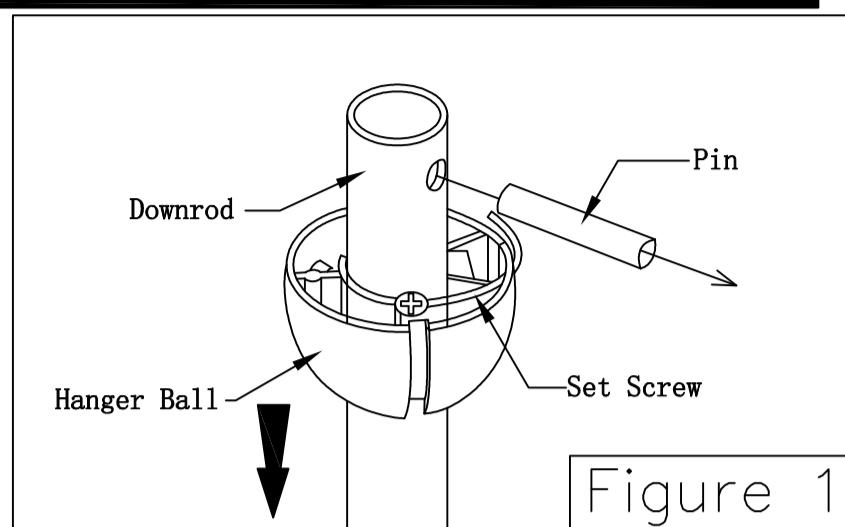

Figure 1
□ Remove the hanger ball portion from the downrod/hanger ball assembly by loosening the set screw in the hanger ball until the ball falls freely down the downrod. Remove the pin from the downrod, then remove the hanger ball. Retain the pin and hanger ball for reinstallation in Step 6. (Figure 1)